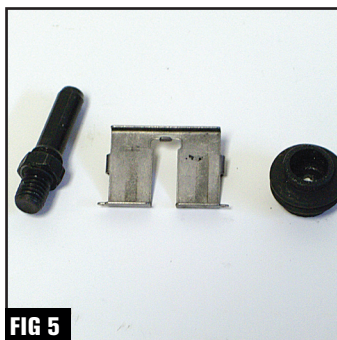

FIG 5
- 6** Un-thread the caliper slide pin from the carrier using the appropriate size wrench. Remove the slide pin dust boot. Remove the brake pad stop. This part is usually held in place with a little bit of adhesive. Lightly pry it loose with a small screw driver. (Parts shown in Fig 5)